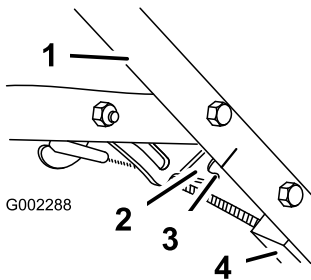

Figure 25
4. Loosen the nut on the cable bracket (Figure 25).